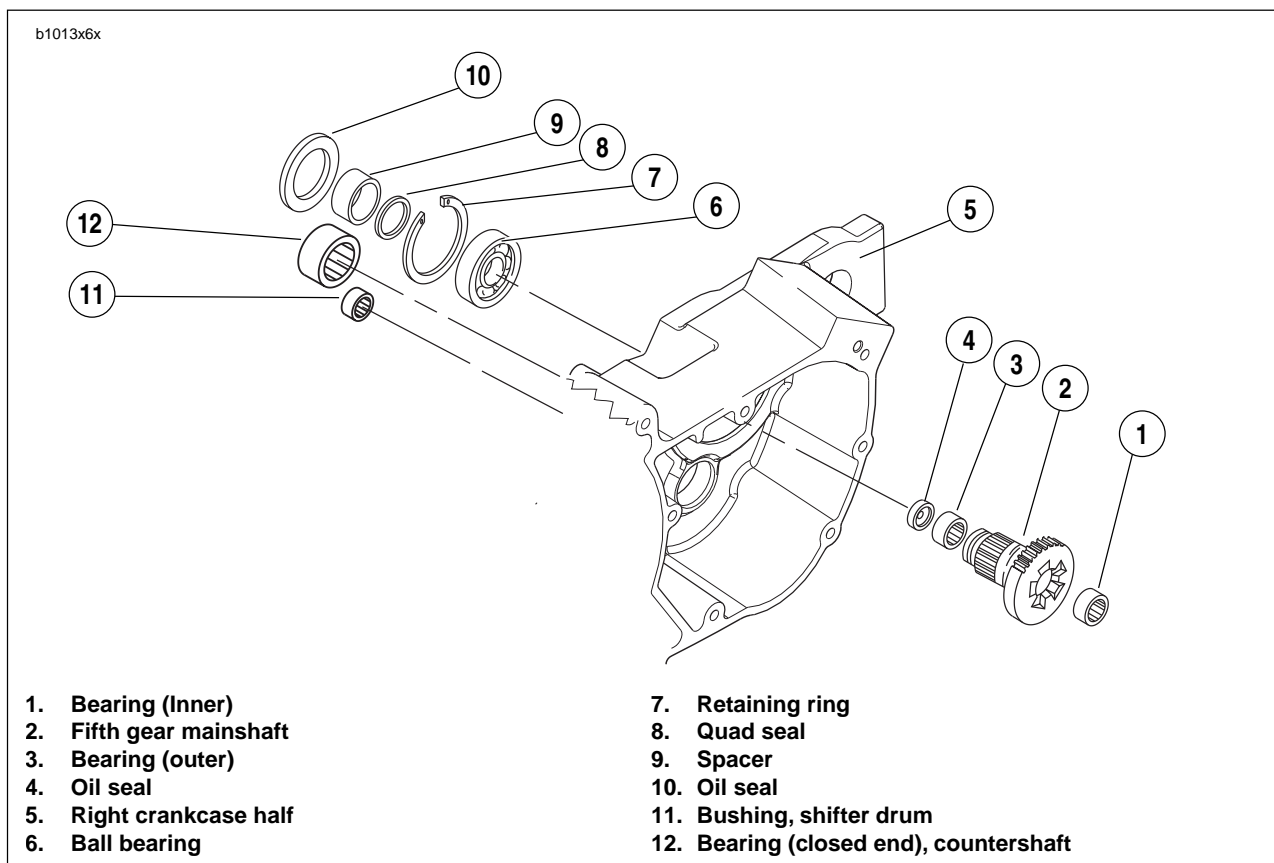

Figure 6-73. Transmission Assembly Right Crankcase Half
4. See Figure 6-73. Place **new** quad ring over threaded end of fifth gear, and position next to the gear taper. Install spacer over threaded end of fifth gear with chamfered end toward quad ring. Slide spacer up against bearing.
See Figure 6-73. Refer to *Transmission assembly right crankcase half*, for location of items discussed on this page.
2. See Figure 6-73. Remove main drive 5th gear. Use MAIN DRIVE GEAR REMOVER AND INSTALLER (Part No. HD-35316A). See 6.11 MAIN DRIVE GEAR.
2. See Figure 6-73. From the outside of the case place the needle bearing open end first next to the bearing bore. Hold the driver squarely against the closed end of the bearing and tap the bearing into place. The bearing is properly positioned when it is driven inward flush or 0.030 in. (0.762 mm) below the outside surface of the case.
1. See Figure 6-73. The shifter drum bushing (11) is a press fit in the right crankcase half. Inspect the bushing against the corresponding end of the shifter drum for proper fit and wear.